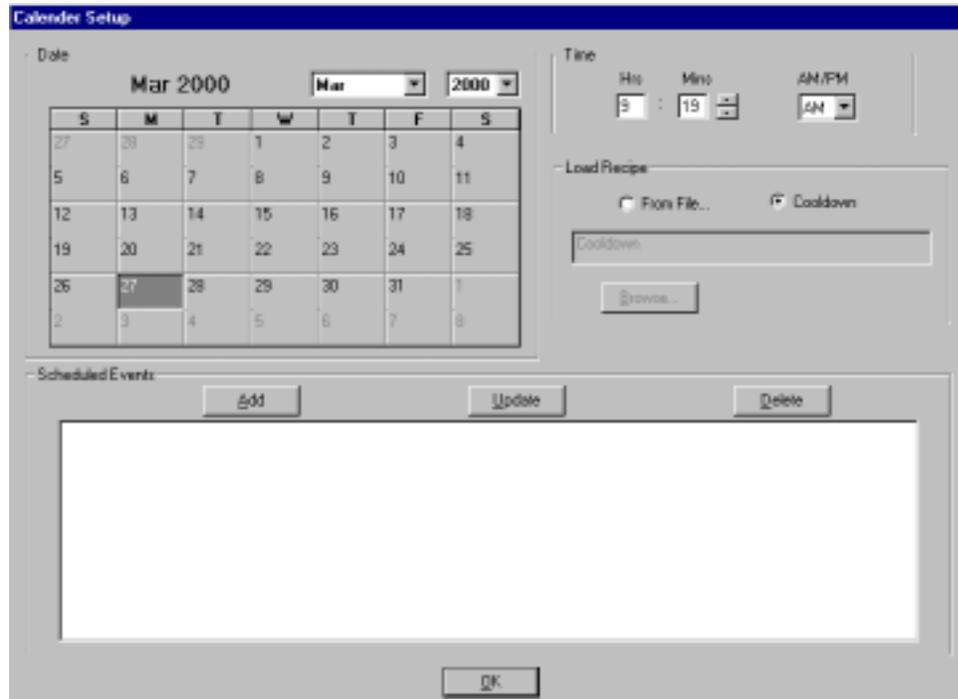

Figure 18
- a. Calendar displays the calendar setup screen that allows the user to generate an automatic recipe or cooldown start event. Click the Calendar icon on the main toolbar or from the menu bar click Utilities then Calendar. **See Figure 18.**